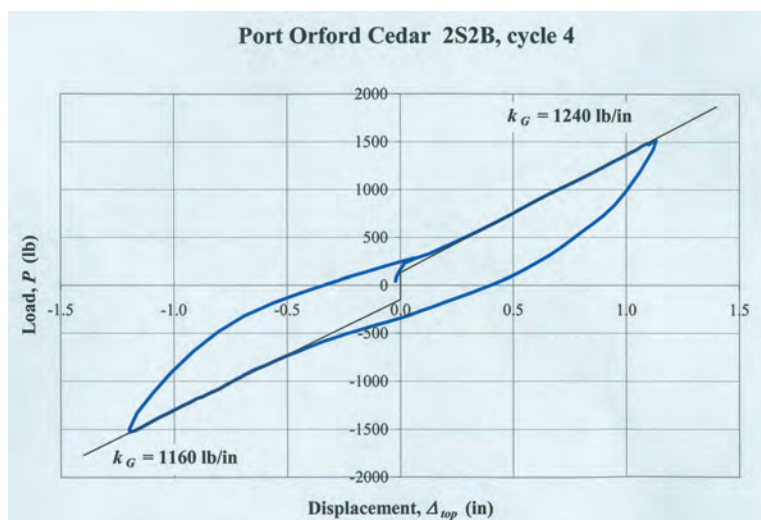

FIGURE 4. TYPICAL SERVICE LEVEL LOAD VS. DISPLACEMENT CURVE.
**Service Level Load Results.** Table 1 provides frame stiffness results for the first viable load cycle of significant lateral load, and the typical load-displacement plot of the Port Orford cedar frame is shown in Fig. 4. The white oak frame, with an average stiffness of 3060 lbs. per in., had more than twice the stiffness of any other frame. The higher stiffness of the white oak frame was primarily due to the higher stiffness of oak joints and the additional peg at all brace connections. Contrary to indications of the one-story, one-bay frame test results described in Part I of this series, the 2S2B results revealed no free displacement in the absence of gravity load.